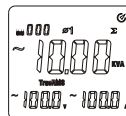

Figure 9-2
- As shown in Figure 9-2, please press “ Σ ” key to measure total three-phase power. Current measured power of the 1st phase location also shall be calculated and saved.